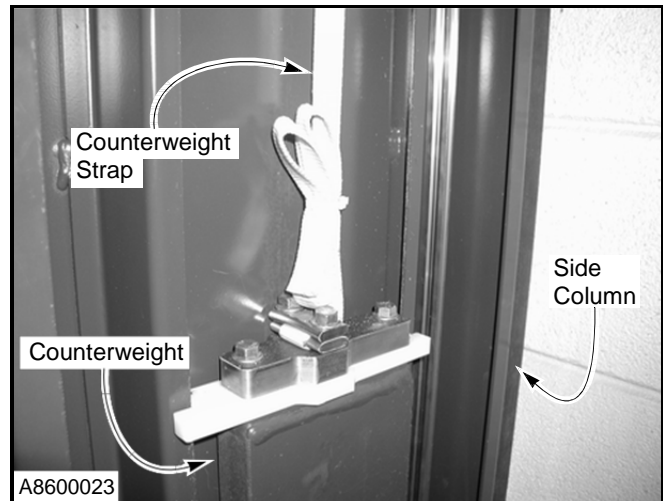

Figure 30
2. Inspect both counterweight straps for tears and frayed edges. Also inspect each strap for abrasions that might indicate a seized pulley or misaligned drum roll. (See Figure 30)